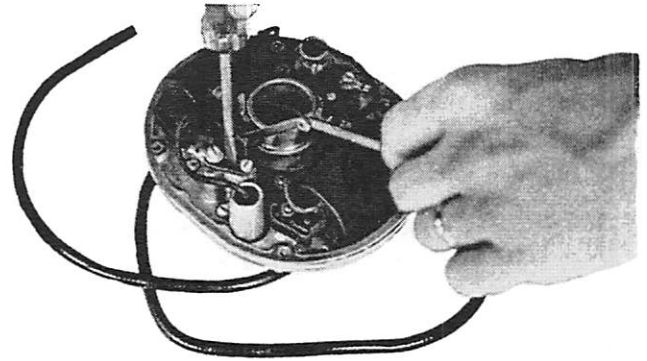

Figure 40. Adjusting Breaker Points
6. Adjust breaker points in magneto by setting magneto so one breaker arm is at highest point on cam (about 1/4" after breaking open). Set stator or throttle handle at half throttle and turn crankshaft to highest point on cam. Set .018" (.4572mm) clearance between open faces of points with Feeler Gauge (C-91-24262) or a good automotive type. (Figure 40) To set the other, rotate crankshaft and cam 180° and set same gap. (Refer to 2-cylinder "degree plate setting" on P. 13.)